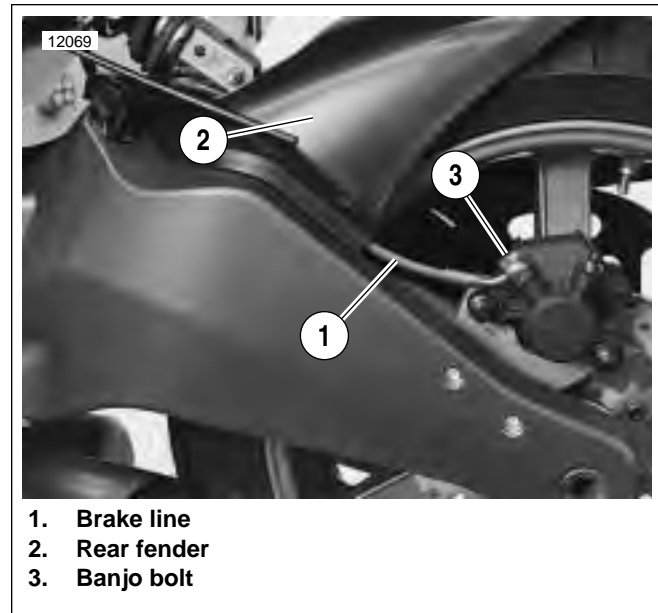

Figure 2-58. Rear Brake Line
5. See Figure 2-58. Remove the rear wheel fender.